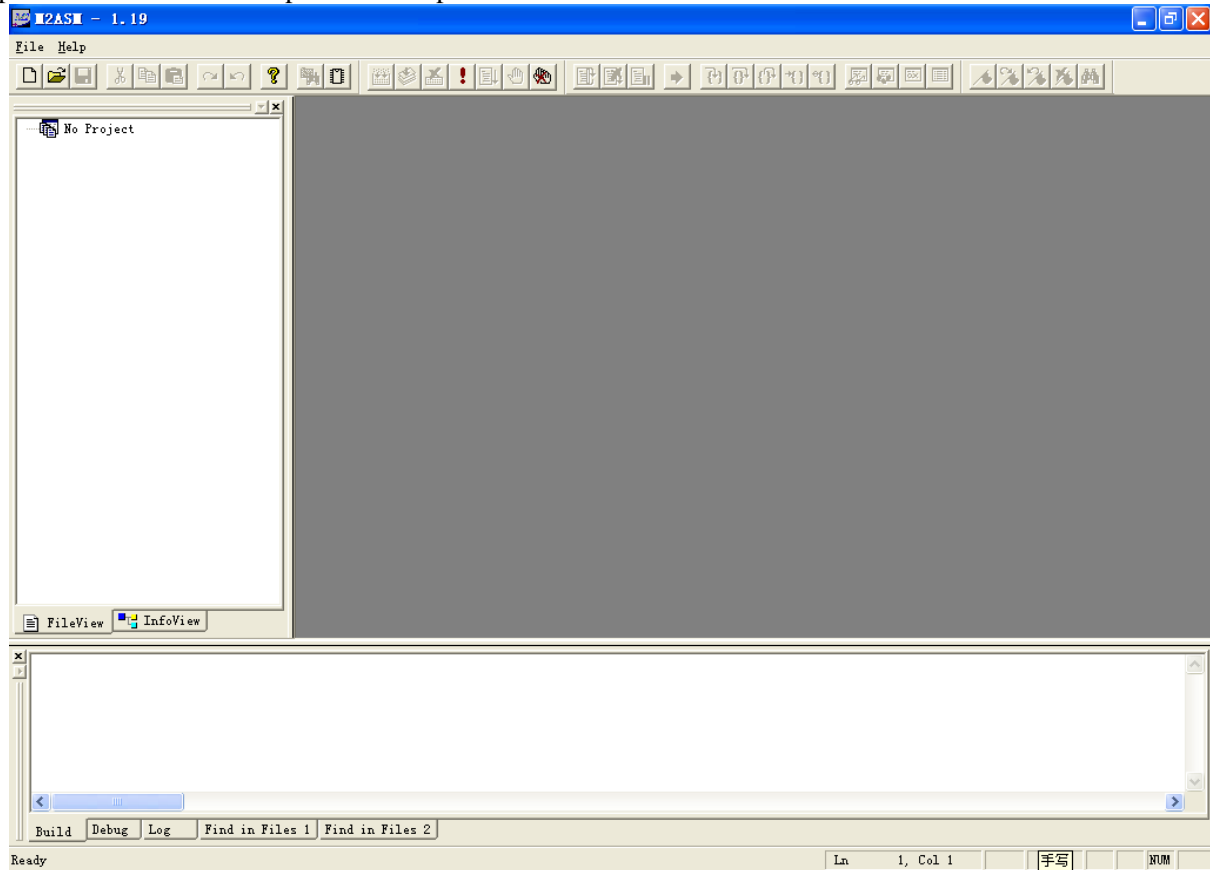

Figure 2-7 M2IDE Interface
Step 1: Open M2IDE (Figure 2-7);